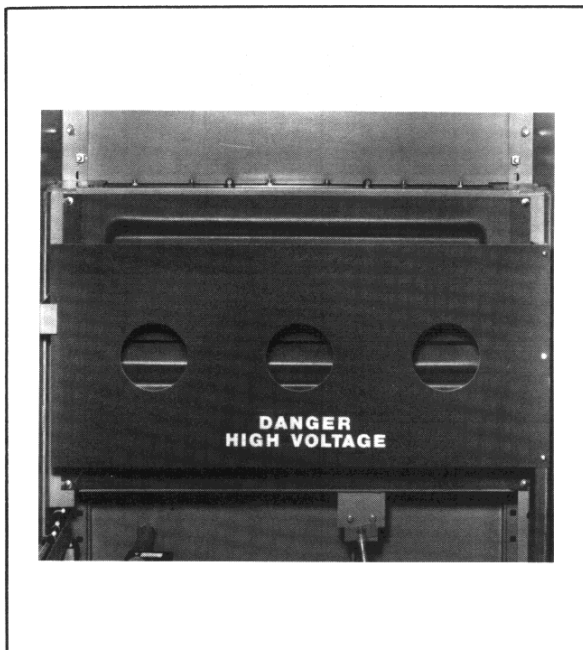

Figure 1-5
1.2.3 Shutters (Figures 1-5 & 1-6)
Shutters are automatically operated by the circuit breaker element to cover the stationary main contacts when the breaker is removed from the enclosure. These shutters are shown in Figures 1-5 & 1-6. The shutters are part of the stationary housing and are raised by a shutter lifting arm which is actuated by a roller attached to the circuit breaker element. The shutters are closed in the test/disconnect positions and are raised to expose the HV stationary contacts as the breaker is moved from the test to the connected position. The shutters can be hand operated by lifting the shutter lifting arm.